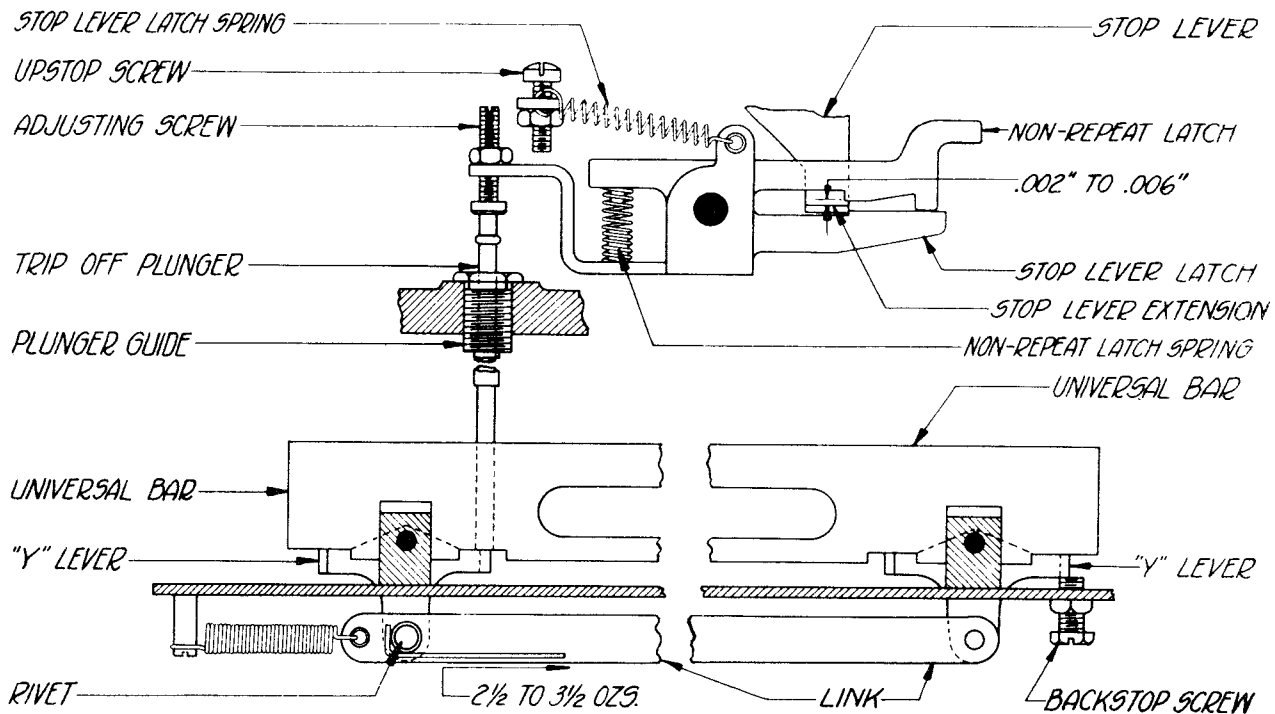

Figure 7
(b) Replace the perforating selector-bar assembly, being careful not to damage the tripoff plunger. See Figure 7.
screw in until it just touches the universal-bar Y lever. Then turn the screw in approximately two-thirds of a turn, and tighten the locknut. See Figure 7.
in Figure 7, between the nonrepeat latch and the upper surface of the stoplever extension. See Figure 7.
2.19 Universal-bar Spring: Trip the main clutch by depressing a keylever. With a scale hooked over the rivet which connects the left universal-bar Y lever with the link, pull to the right in line with the link. It should require a pull of minimum 2-1/2 ounces, maximum 3-1/2 ounces, to just start the link moving. See Figure 7.